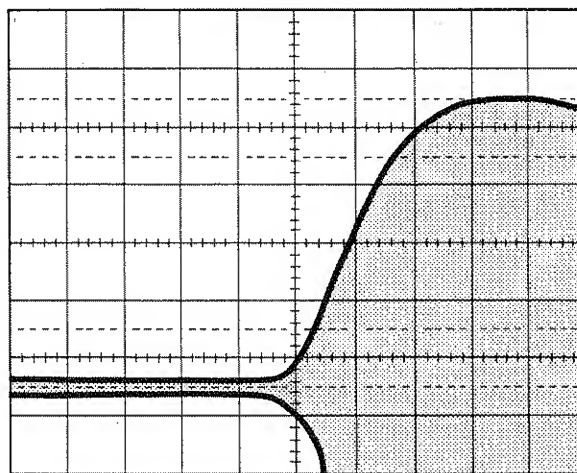

Figure 4-14. Pulse Modulation Rise Time Waveform.
5. Set the oscilloscope horizontal for 50 nanoseconds/division and select channel A input only. Adjust the channel A (pulsed IF input signal) vertical gain and position so that the pulse OFF is at the 0% graticule line and the pulse ON is at 100% graticule line. Select the horizontal MAG X10. The oscilloscope is now calibrated for 5 nanoseconds/division. Adjust the horizontal position control to position the modulation envelope so that the 10% point of the envelope rise time is at the center vertical graticule line similar to Figure 4-14.